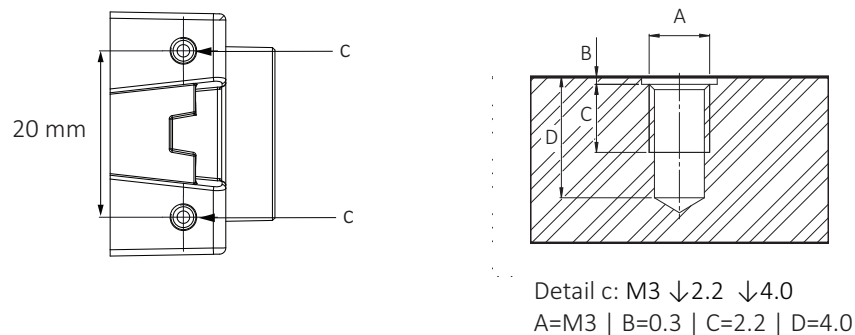

Figure 53: Top and bottom and mounting threads (c)
1. Mount the camera to the base using suitable M3 screws at 0.51 Nm maximum torque for a thread engagement (C) of 2.2 mm between screws and mounting threads, see Figure 53. For technical drawings, see Dimensions and mass on page 107.